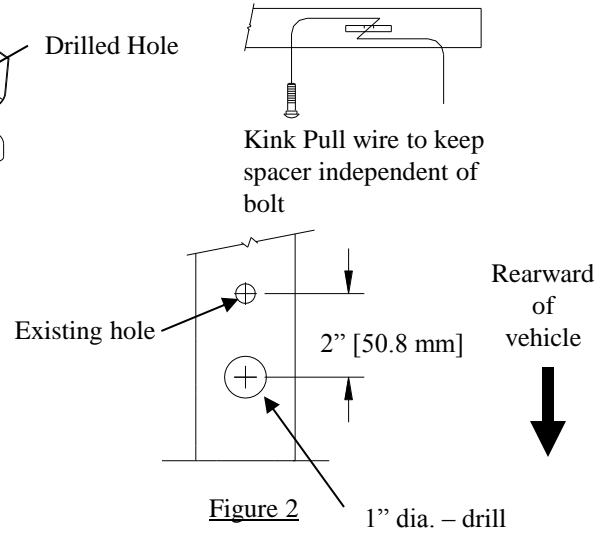

Figure 2
- Lower exhaust system at the rubber isolator (3). Spraying a lubricant on the metal hanger rod and the rubber isolator helps removal.
- Drill 1" access hole in **bottom** of each frame rail. See Figure 2.